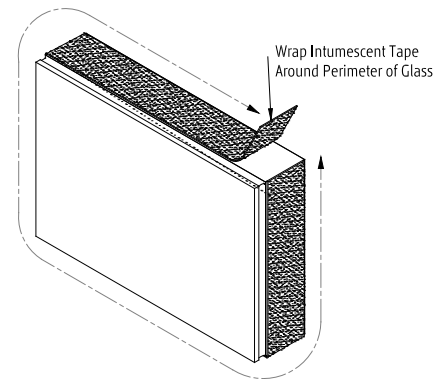

Figure 28 - Intumescent Tape Installation
- 12.4 The gap behind the spacer at the gasket notch, at every head and sill vertical mullion location, must not be blocked or sealed with silicone sealant (Figure 28).